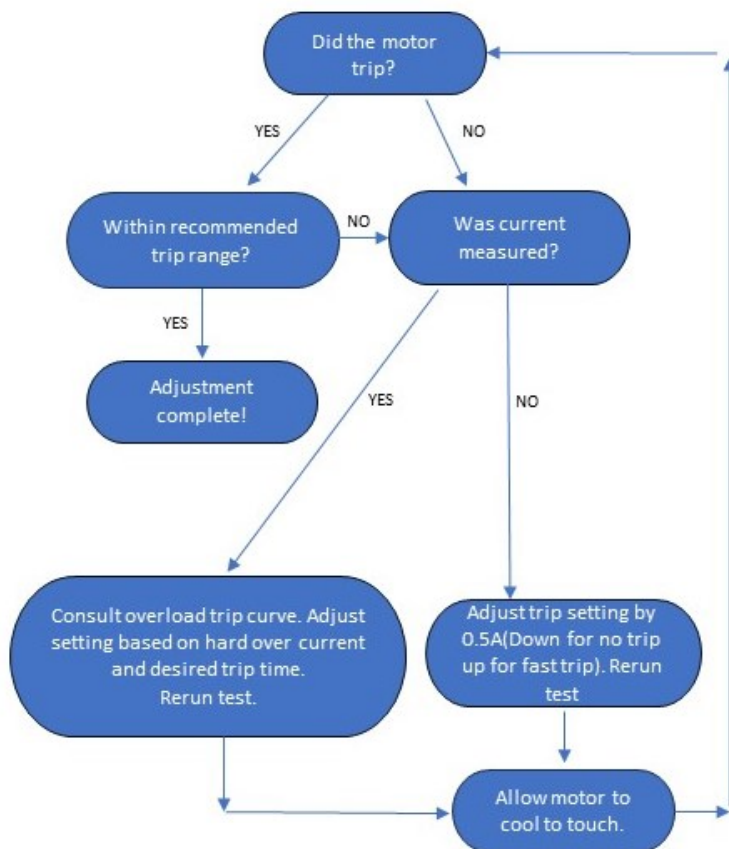

Figure 10: Overload adjustment evaluation.
9. Refer to Figure 10 for interpreting and acting on test results. Ensure the motor cools down to the touch before running subsequent tests.